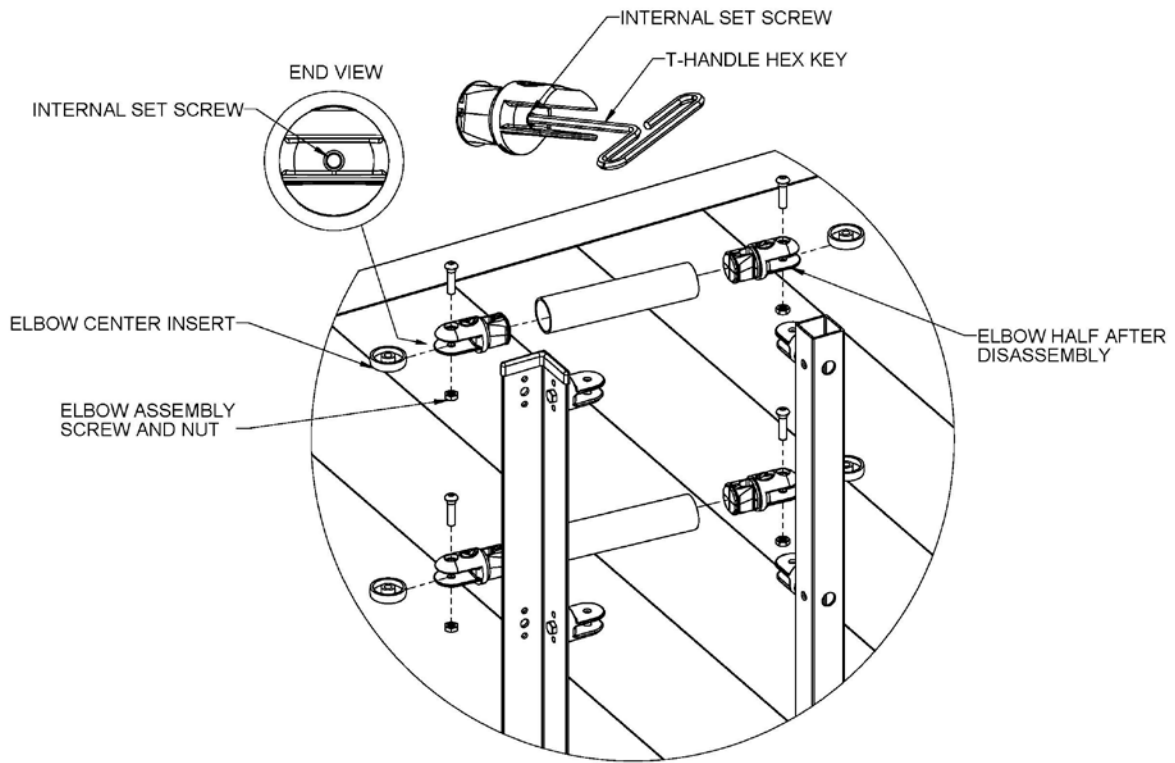

FIG. 15
- 4.7. Disassemble the closure elbows by removing the elbow screws and nuts but do not remove the closure elbows halves from the platform handrail or stair top posts (FIG. 15).
- 4.9. Tighten internal set screws with a T-Handle wrench. An Allen wrench and pliers to get additional torque can be used as an alternate (FIG. 15).
- 4.10. Reassemble all elbows by replacing center insert and securing with the screw and nut then tighten all fasteners, including the hex cap screws, securely (FIG. 15).